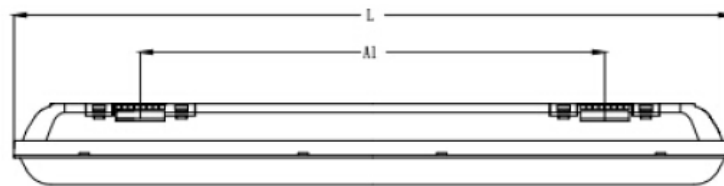

Fig. 1
- Using the mounting brackets as a template, mark the location for, and drill the fixing holes ensuring not to infringe with any gas/water pipes or electrical cables. Fixing centres are shown in Fig. 1